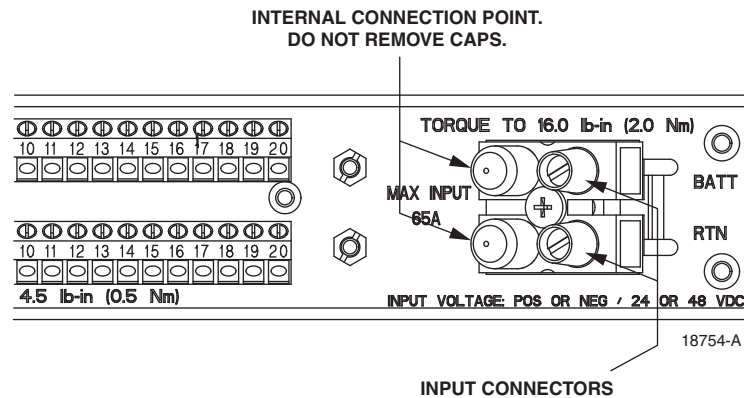

Figure 19. Installing Power Input Using Set Screw Barrel Connectors
- Set screw barrel connectors, shown in Figure 19.
On each connector, the barrel that is closest to the outside of the fuse panel and does not have a cap on it is to be used to connect input power to the fuse panel power bus when installing the fuse panel. The other barrel on each connector that is closest to the center of the fuse panel has a cap over it and is not to be used or accessed. The set screw barrel input power connectors can accept up to a #6 AWG copper wire. In selecting wire size, follow local code, referring to the ampacity guidelines provided in Appendix A of this manual. The wire is inserted into the connector, and the connector screw is screwed down, compressing the wire. Install the input wires to the set screw barrel connectors as shown in Figure 19. For torque specifications, refer to installation drawing.